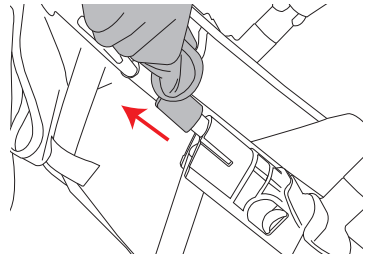

Figure 22
- To remove the canopy, undo the Velcro® attachments on the sides and back of the seat and the handle tubes. Then, slide the canopy up off of both fittings on the sides of the stroller. See Figure 22.